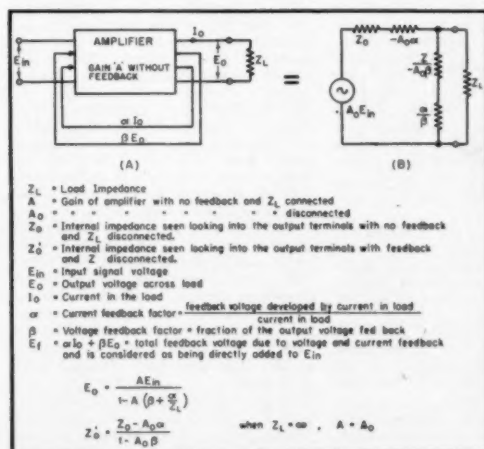

Fig. 1. General feed-back amplifier equivalent circuit.
The general feedback equivalent circuit is shown in *Fig. 1*. This equivalent circuit is applicable to any amplifier involving voltage and current feedback, both positive and negative.
To take these two factors into account, the equivalent non-feedback circuit has been drawn in two parts, as at (B). The signal is first attenuated in the left circuit by the factor $Z_1/(Z_1 + Z_2)$, giving a new input voltage E_{in}' . Next the signal voltage E_{in}' is amplified and fed into an interstage equalizer derived from Fig. 1. The additional branch consisting of a series arrangement of Z_1 , Z_2 , and a generator E_{in} takes care of the direct path from input to output and the plate loading due to $Z_1 + Z_2$.